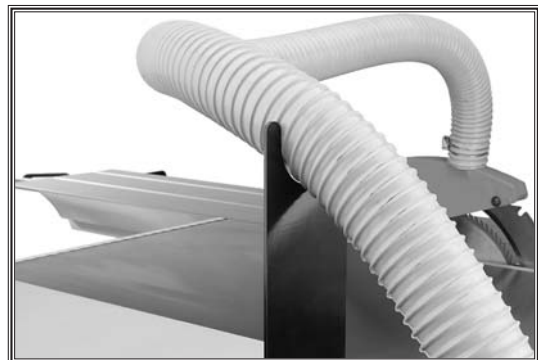

Figure 44. Dust hose support in use.
3. Run the 2½" hose over the hose support, as shown in Figure 44.